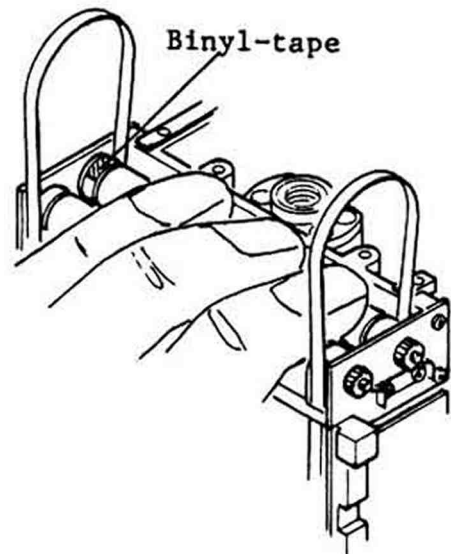

Fig. 26
- b. Rotate the 2nd curtain spring drum with left hand index finger and middle finger counterclockwise about one rotation. Both ribbons will become loose as shown in Fig. 26.